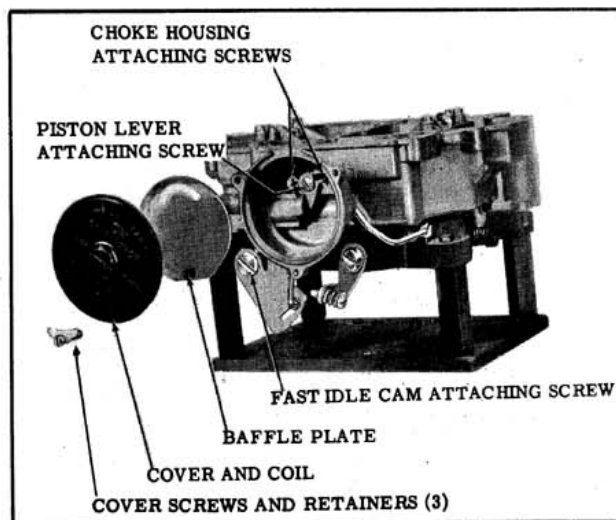

Fig. 4-50 Choke Assembly and Fast Idle Cam
2. Remove the three choke cover attaching screws and retainers, then remove the choke cover, gasket and baffle from the choke housing. (Fig. 4-50)